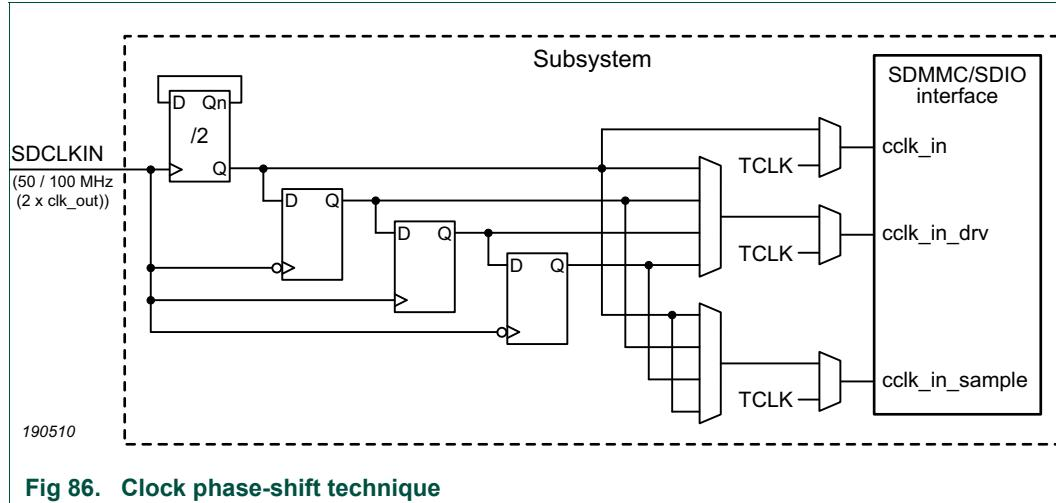

Fig 86. Clock phase-shift technique
Figure 85 illustrates relationships for these delays. Figure 86 shows the relationships between cclk_in, cclk_out, cclk_in_sample, and cclk_in_drv.
- Figure 86 The cclk_in_drv and cclk_in_sample clocks are phase-shifted versions of cclk_in. The value of the phase shift should be selectable, based on the speed modes. The phase shift can have a resolution of 90° or 45° with respect to the cclk_in clock period—the higher the resolution, the better it is. All clocks have a 50% duty cycle.